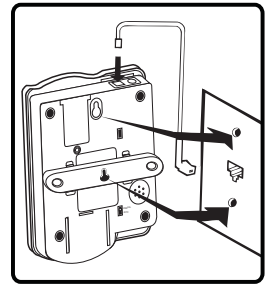

Figure 6
4. Plug the flat telephone line cord into the wall plate jack, then align the mounting bracket's keyhole slots with the wall plate studs and slide the base of the phone downward to secure it on the wall. See Figure 6.